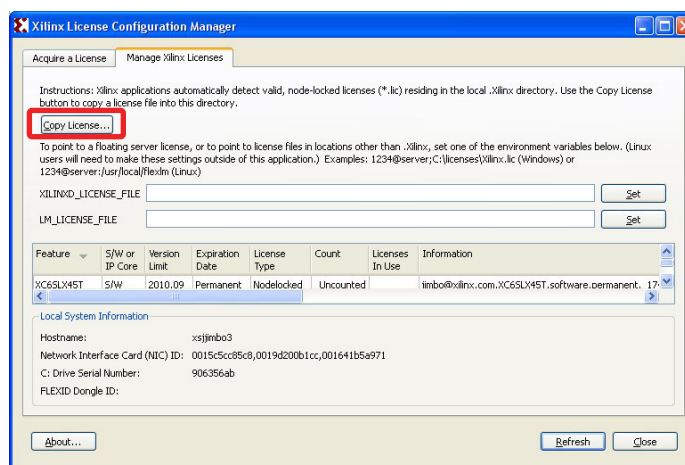

Figure 1-66: Manage Xilinx License Tab
8. Go back to the Xilinx License Configuration Manager dialog and click **Copy License...** (Figure 1-66).